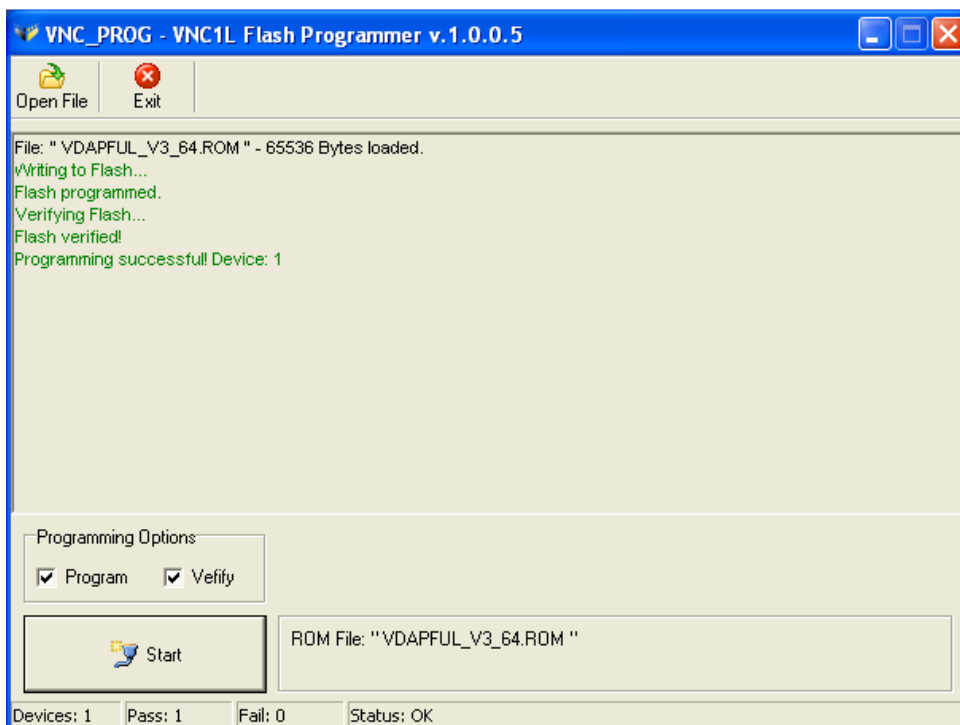

Figure 3.8 VPROG-1 Completion of Programming VNC1L-1A
6. When programming is complete, check that the PASS LED is ON. This indicates that programming is complete. The user interface, when complete, is shown in Figure 3.8: